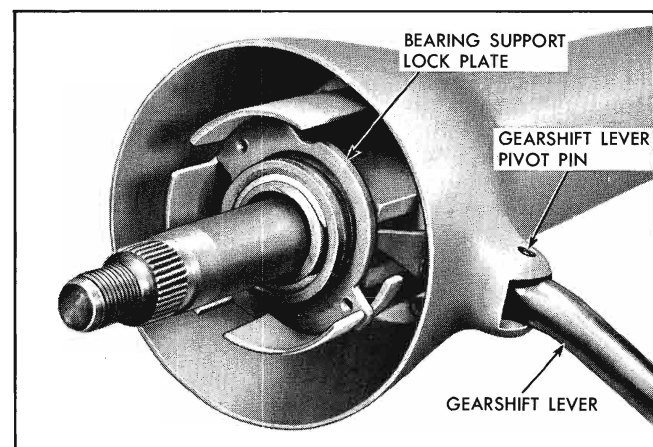

Fig. 9-16 Location of Bearing Support Lock Plate
15. Disengage and remove bearing support lock plate (Fig. 9-16).